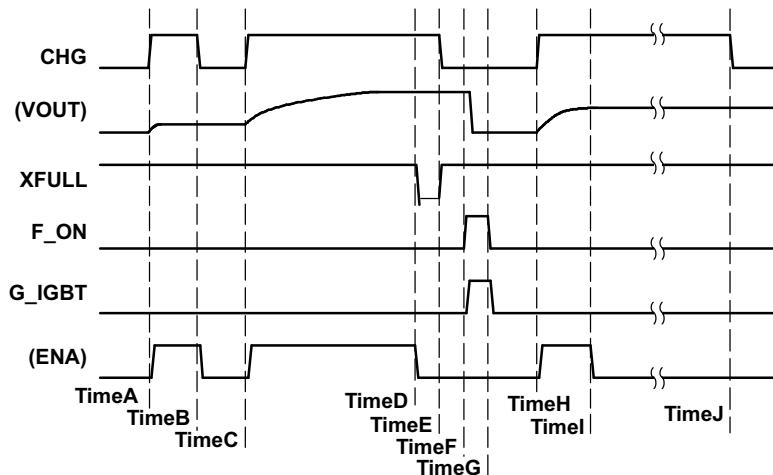

Figure 4. Whole Operation Sequence Chart
The only way to *start* charging is to input CHG↑ (see time A/C/H in Figure 4). Each time CHG↑ is applied, the TPS65560 starts charging.
1. Forced stop by inputting CHG = L from the controller (see timeB in Figure 4).
2. Automatic stop by detecting a full charge. VOUT reaches the target value (see TimeD in Figure 4).
3. Protected stop by detecting an over current function (OV_{DS}) trigger at SW pin (see Timel in Figure 4).
The device starts charging at *timeH*, and OV_{DS} protection occurs at *Timel* (see Figure 4). At Timel, XFULL stays H. At *TimeJ*, the controller detects OV_{DS} protection through the expiration of a timer ends and then sets CHG to low to terminate the operation.
The TPS65560 provides an overvoltage monitor function of the SW pin. The TPS65560 is latched off if the voltage on the SW pin is above OV_{DS} during the switch ON time (see Figure 4 and its descriptions).